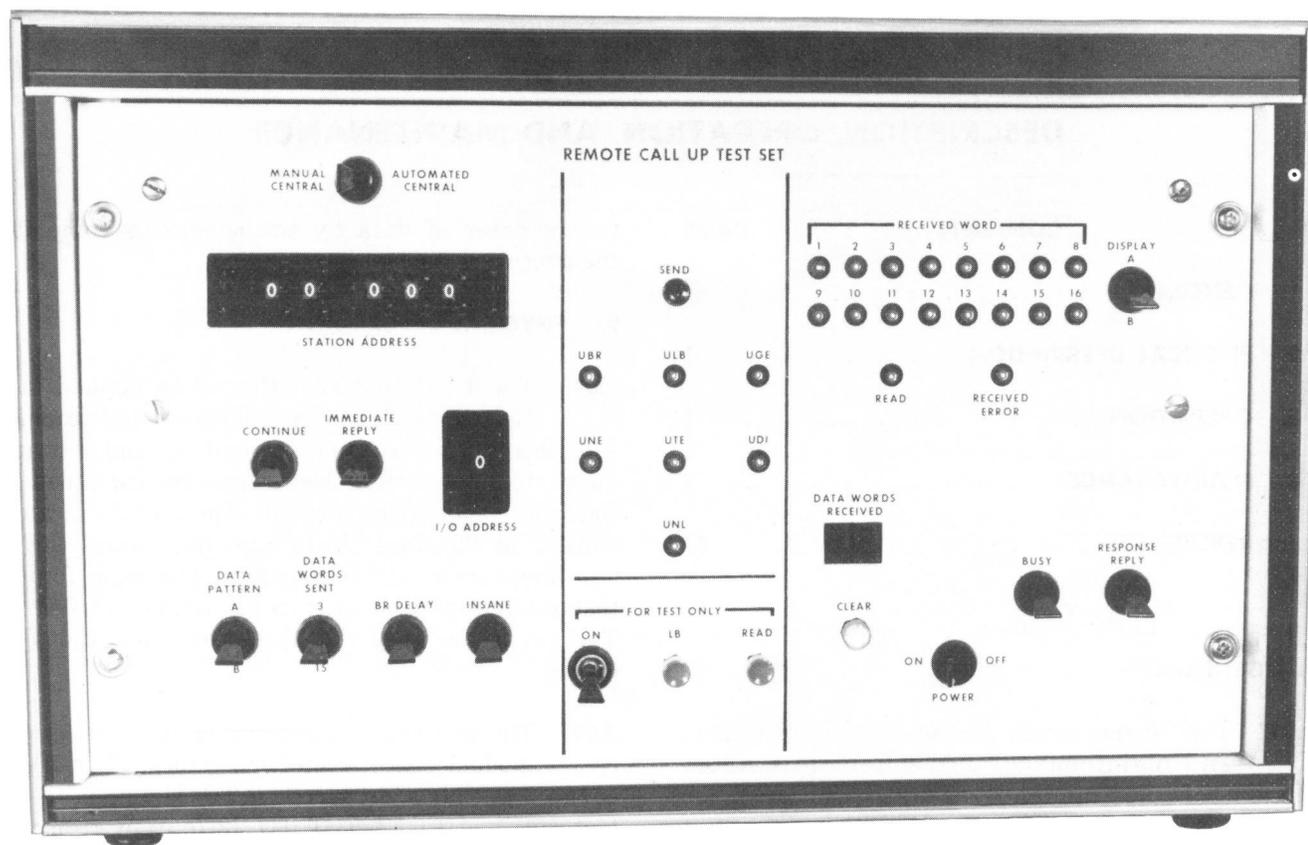

Fig. 1—RCU Test Set
**1.01** This section covers the description, operation, and maintenance of the Remote Call-Up (RCU) test set model RCU-100. The test set (Fig. 1) is used for acceptance and maintenance of the RCU circuit module in E2 remotes. Tests using the RCU test set are covered in the appropriate equipment maintenance sections.
**2.01** The RCU test set (Fig. 1) is housed in a 15-inch by 17-inch by 11-inch portable cabinet. All controls for operating the test set and indicator lamps for monitoring the results are contained on the front panel of the test set. The visual indicators consist of 23 single light-emitting diodes (LED) and one numeric LED readout. The logic for the test set is contained on two printed circuit boards. The set is designed for operation from 120 Vac, 60 Hz.